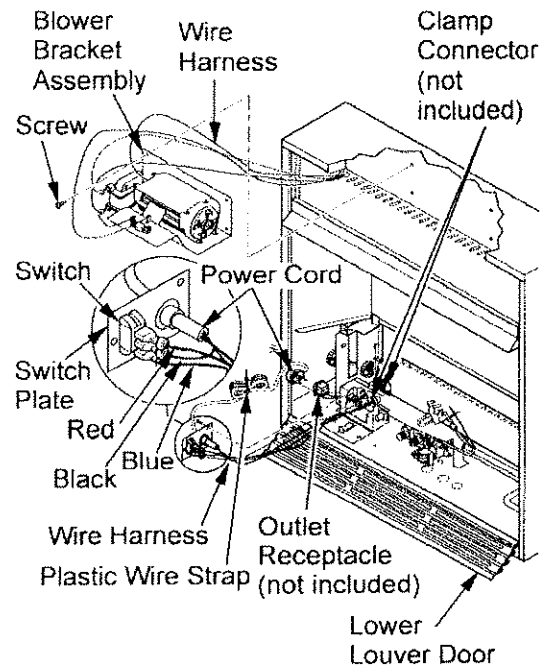

Figure 19 - Installing Blower Bracket Assembly
4. Plug power cord to the outlet receptacle (not provided) as shown in Figure 19. Wind the extra power cord and tie with plastic wire strap (see Figure 19). Set the power cord bundle between the burner bracket and outer casing, away from the burner.